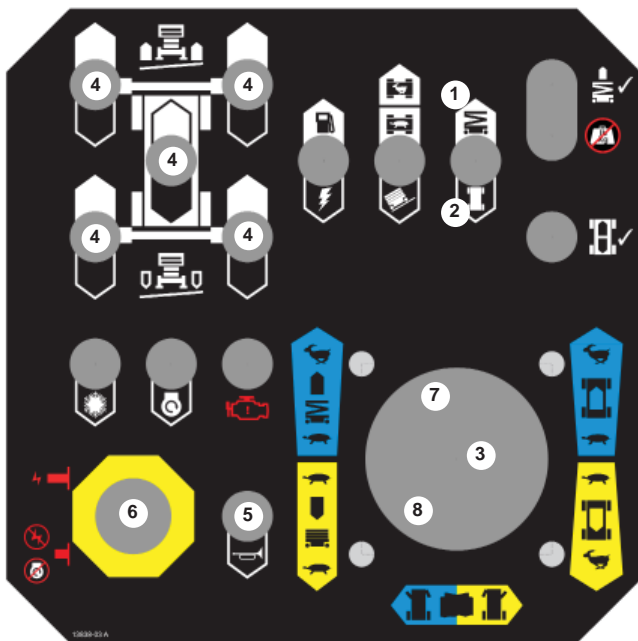

Figure 7.28 Platform Controls
Check all of the lift (1), drive (2), steer (3) and stabiliser (4) functions from the platform control box to see that they cause the S3970RT / S3370RT / S2770RT to move the way it should (see figure 7.28). For correct operating procedures see the Operations chapter.